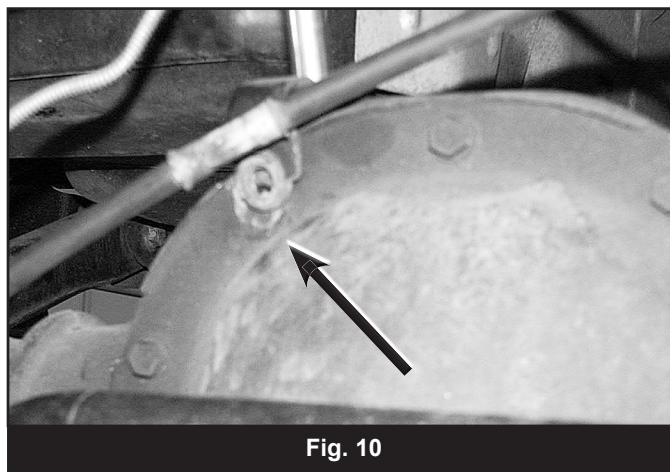

Fig. 10
31. Remove the brake line bracket mounting bolt at the differential (Fig 10). Attach the parking brake cable to the differential using the bracket mounting bolt through the provided cable clamp. Torque to 20 ft-lbs. Ensure that the cable is routed so that it does not rub on any suspension components. Use the provided plastic wire ties where necessary.